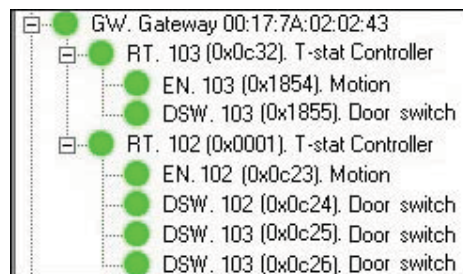

Figure C20
16. See the final **Online Network** tree in Figure C20.
When steps 1-4 below have been performed, the **Online Network** tree in SysMon will typically look as in the example in Figure C20: